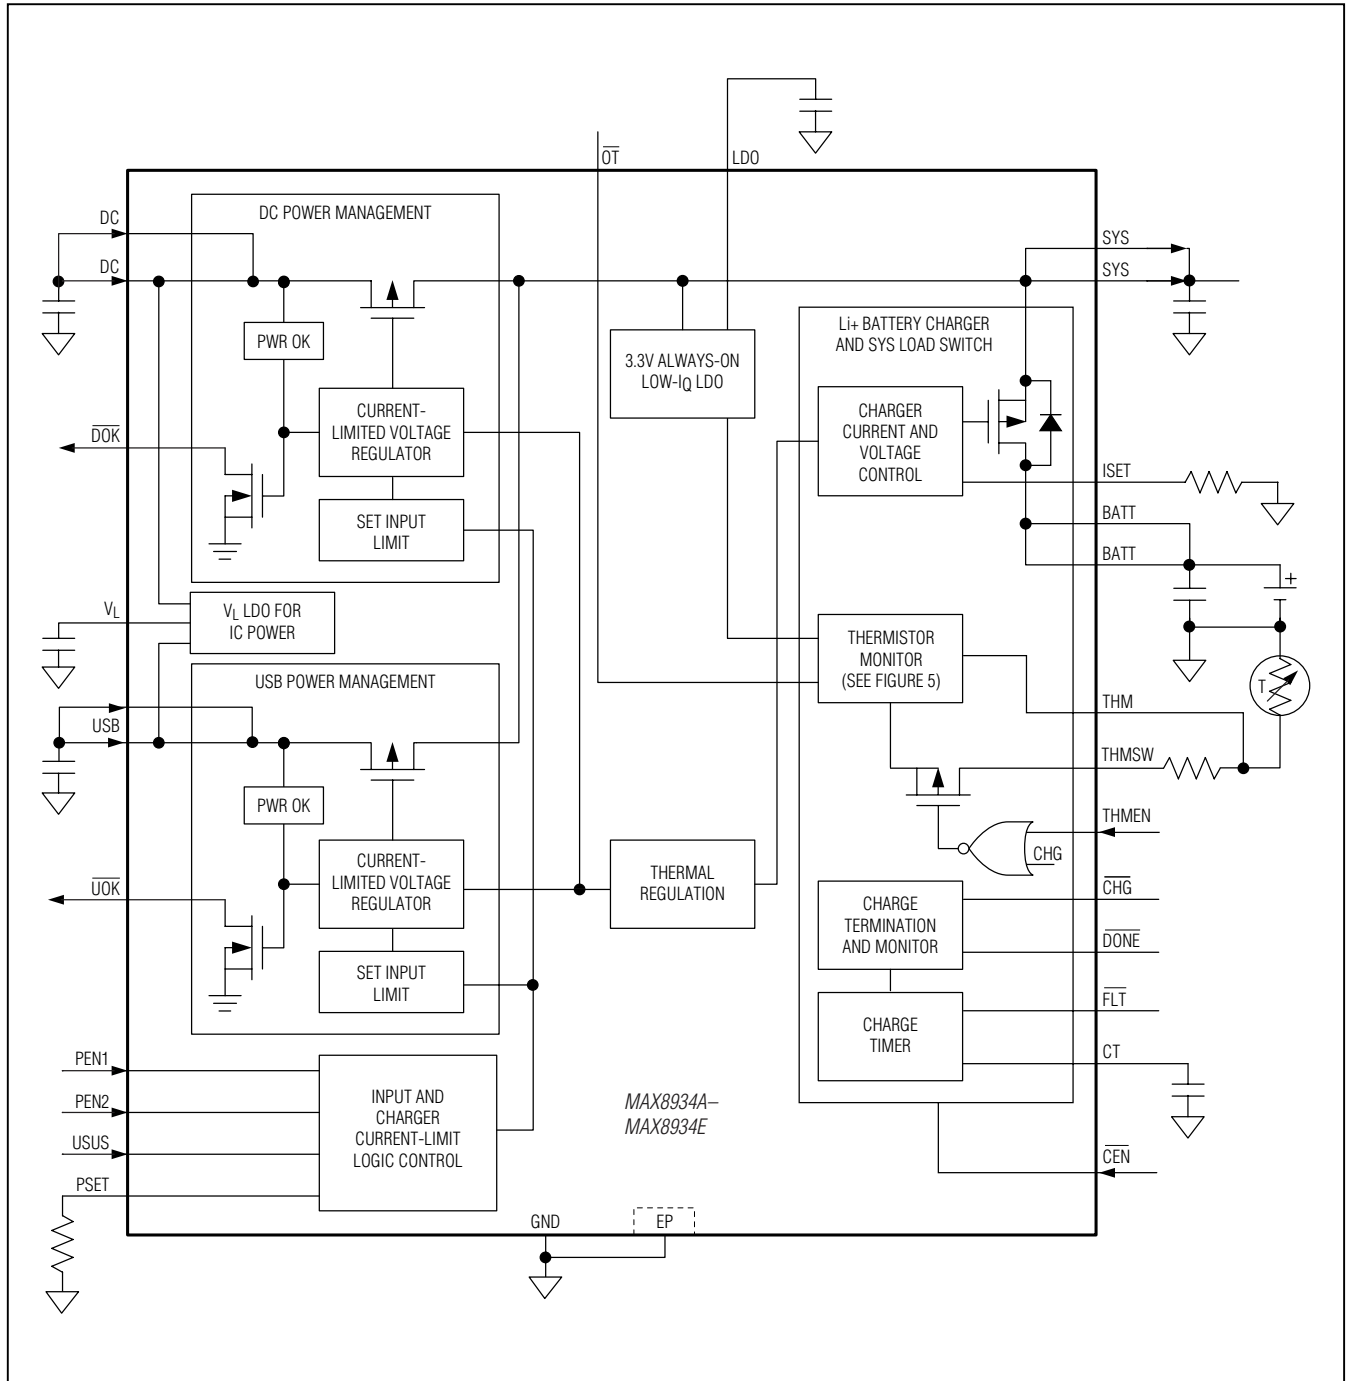
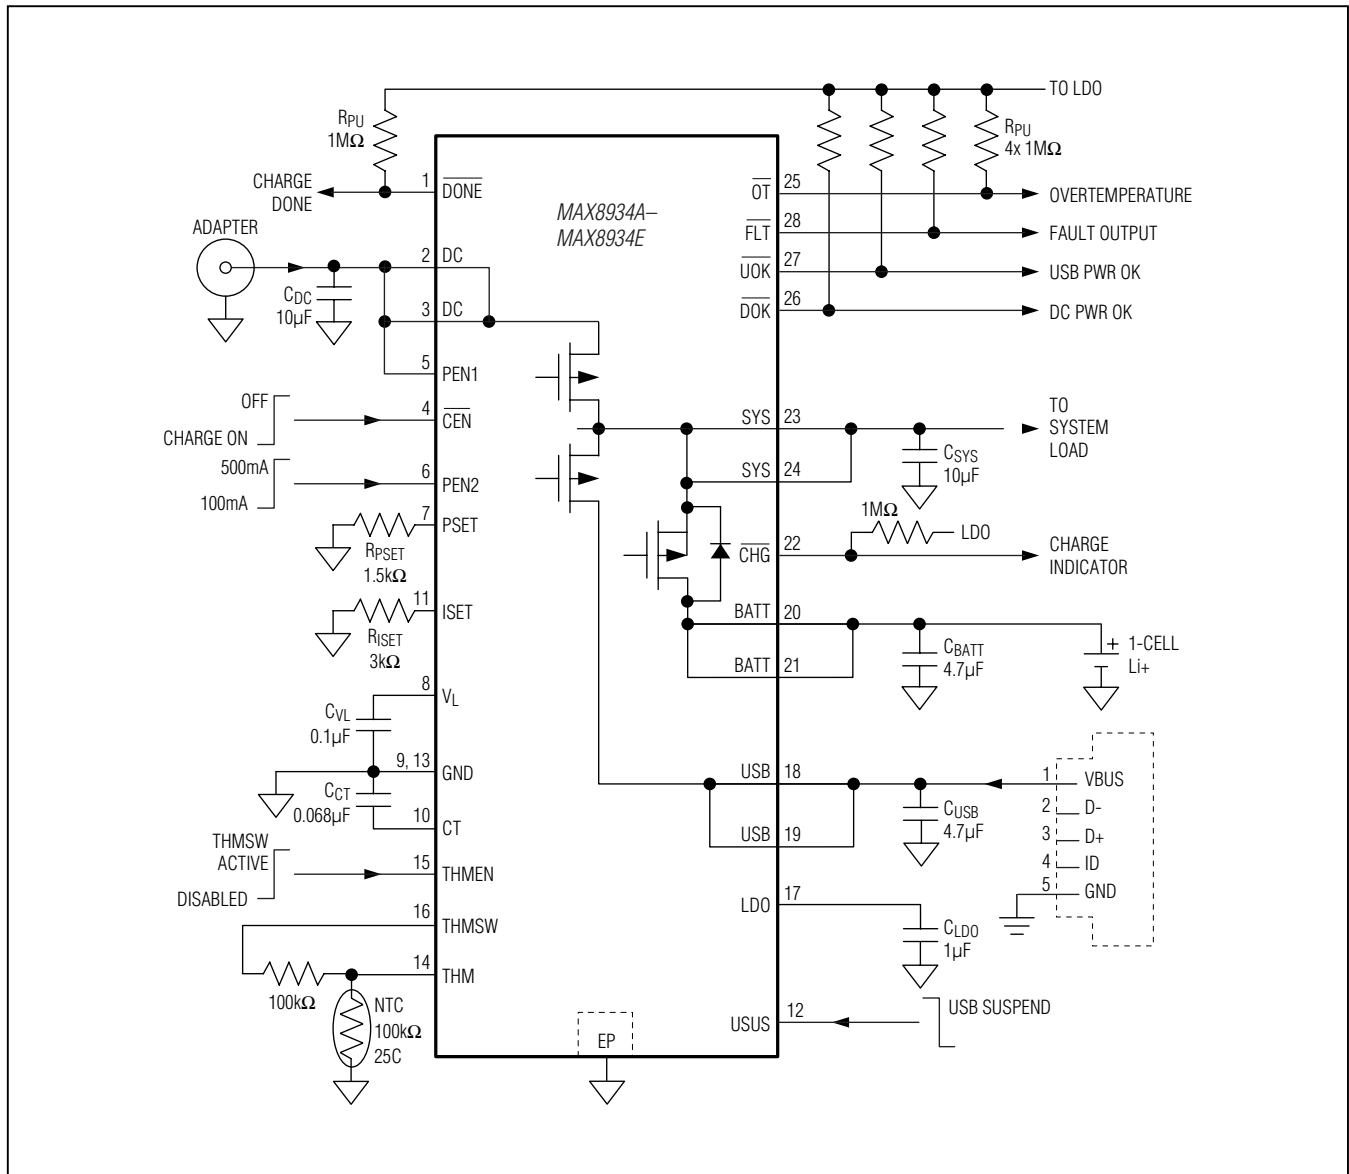
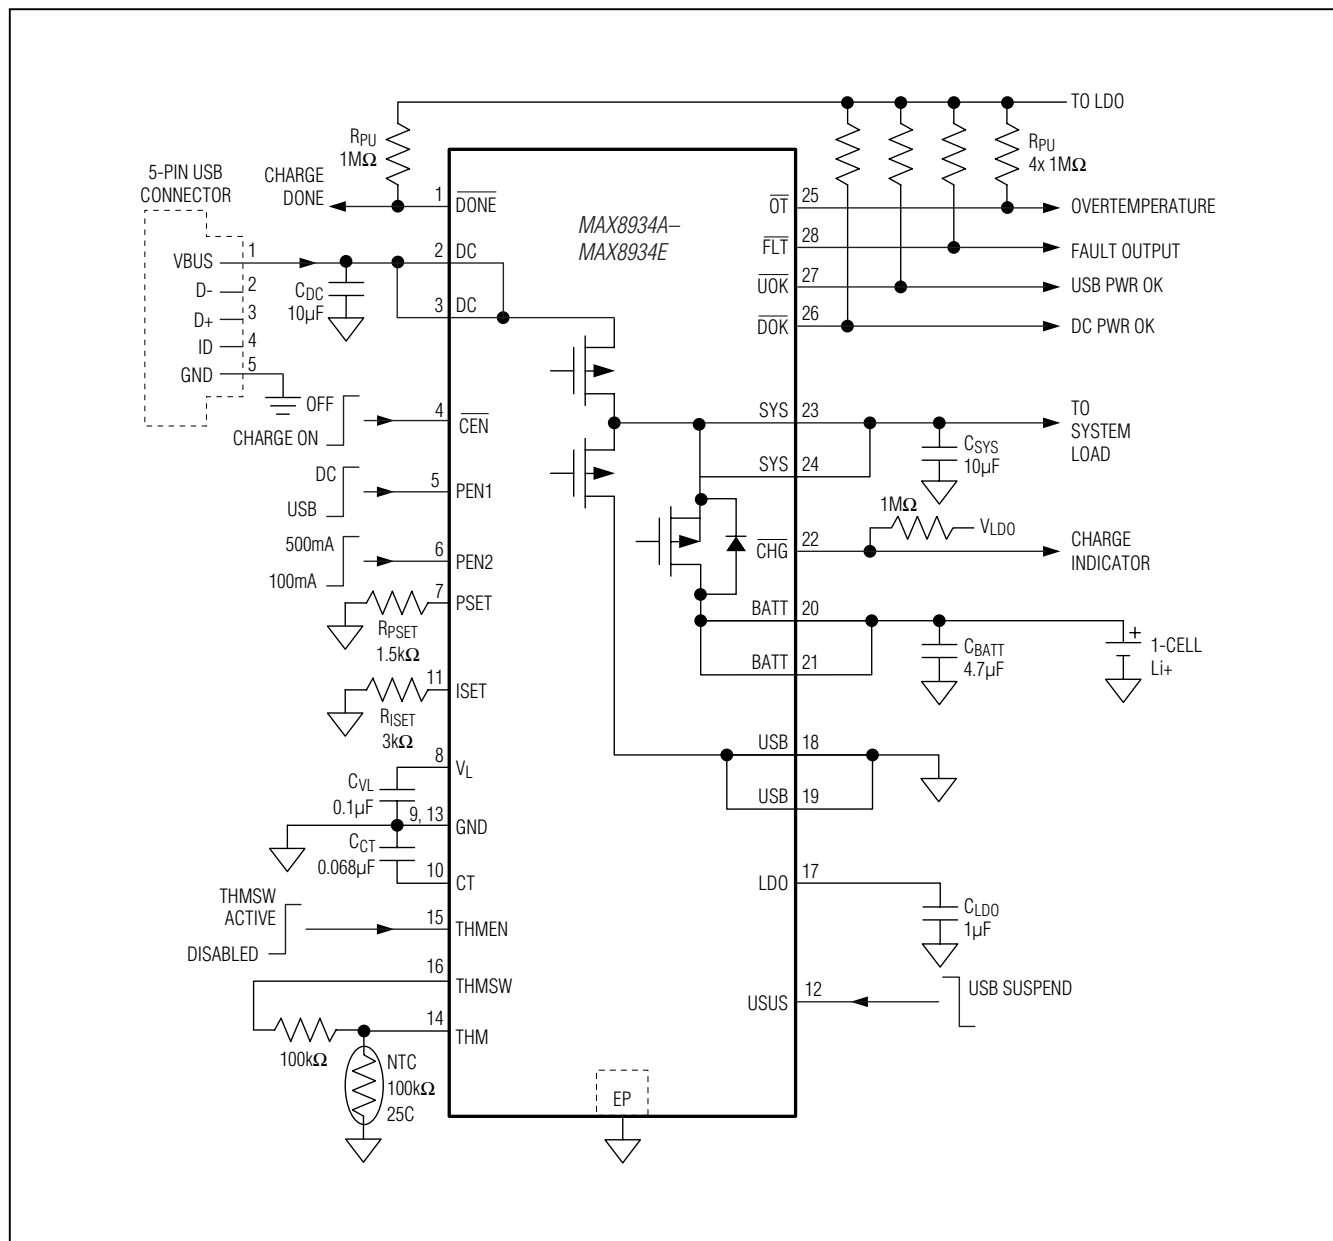

Figure 1. Block Diagram
Figure 2. Typical Application Circuit Using Separate DC and USB Connector
Figure 3. Typical Application Circuit Using a 5-Pin USB Connector or Other DC/USB Common Connector
(MAX8934A,  $T_A = +25^\circ\text{C}$ , circuit of Figure 2,  $V_{DC} = 6\text{V}$ ,  $V_{BATT} = 3.6\text{V}$ , thermistor Beta = 3964, unless otherwise noted. Negative battery current indicates charging.)
**Table 1. External Components List for Figures 2 and 3**
| COMPONENT(Figures 2 and 3) | FUNCTION                                    | PART NUMBER                                                                            |
The MAX8934\_ is a dual-input linear charger with Smart Power Selector that safely charges a single Li+/Li-Poly cell in accordance with JEITA specifications\*. The MAX8934\_ integrates power MOSFETs and control circuitry to manage power flow in portable devices. See Figure 1. The charger has two power inputs, DC and USB. These can be separately connected to an AC adapter output and a USB port, or the DC input could be a single power input that connects to either an adapter or USB. Logic inputs, PEN1 and PEN2, select the correct current limits for two-input or single-input operation. Figure 2 is the typical application circuit using separate DC and USB connectors. Figure 3 is the typical application circuit using a 5-pin USB connector or another DC/USB common connector.